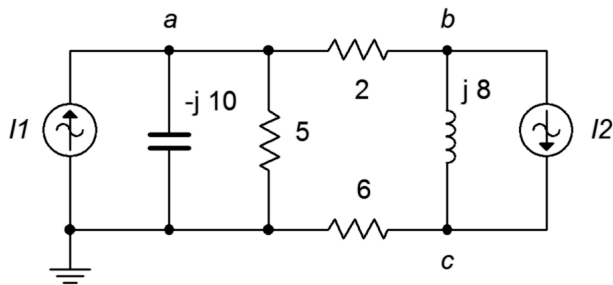

Figure 4.24
42. For the circuit of Figure 4.24, determine voltages v_a , v_b , and v_c . $I_1 = 5\angle 0^\circ\text{ A}$ and $I_2 = 3\angle 90^\circ\text{ A}$.